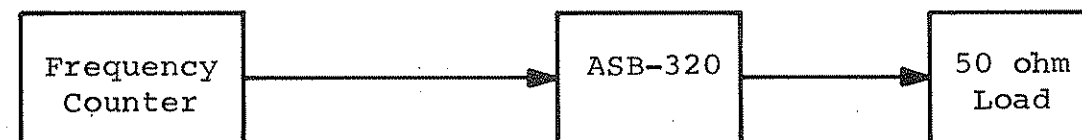

Figure V-1
- (a) Refer to Figure V-1 for equipment hook-up.
- (a) Refer to Figure V-1 for equipment hook-up. (Exciter output disconnected from Driver Amp).